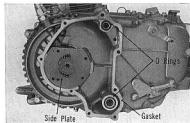

Fig. 7B-30
5. After installing the case cover gasket and O rings as shown in the figure, assemble the torque converter case cover together with the pump housing side plate. (Fig. 7B-30)